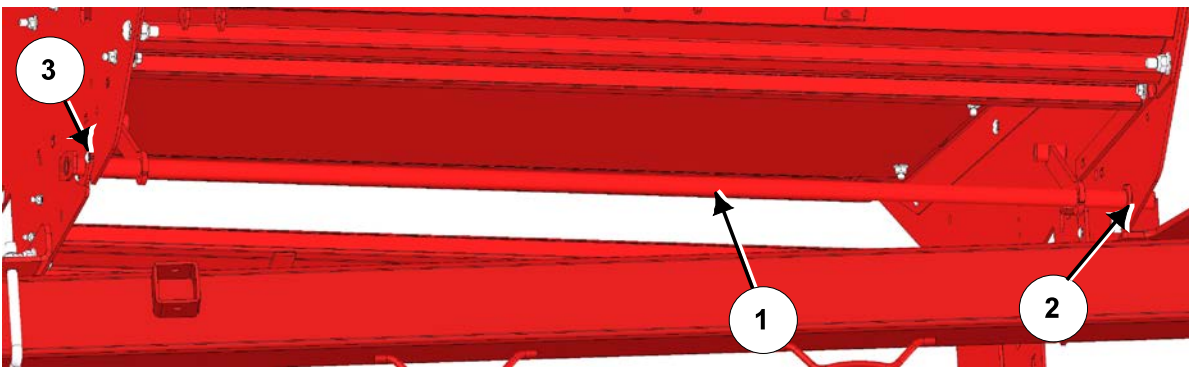

Figure 9: Install the Chopper Door Follower
9. Install the chopper bottom door follower (1), see *Figure 9*.
- Place the pipe of the follower into the hole in rear tub wall (2).
- Fasten with 2 of 3/8" x 1" carriage bolts and stover nuts (3).